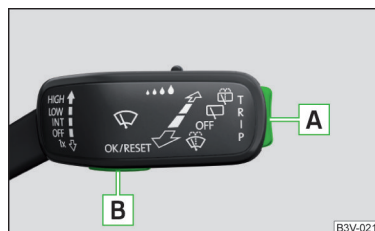
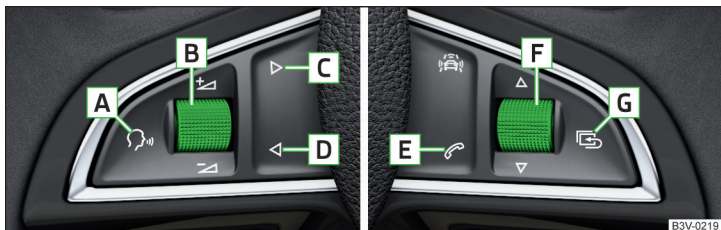

Fig. 31
Fig. 32 Buttons/dials: On the multi-function steering wheel
➤ Press and hold the button **A** on the operating lever » Fig. 31 on page 45.
➤ Press and hold the button **G** on the multi-function steering wheel » Fig. 32 on page 46.
The menus can be opened using the buttons on the control lever » Fig. 31 on page 45 or on the multi-function steering wheel » Fig. 32 on page 46.
Turn setting wheel **[F]** » Fig. 32 on page 46 on the multifunction steering wheel to display the **Last destinations** menu.
- Turn the dial **[F]** » Fig. 32 on page 46.